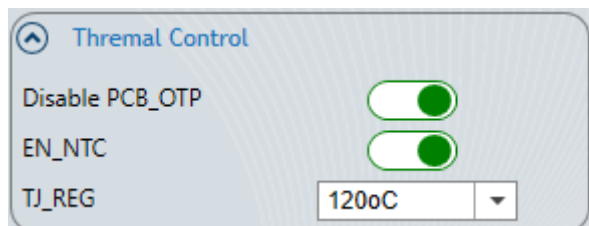

Figure 19: Thermal Control Setting
15. Figure 19 shows the thermal control setting to enable PCB over-temperature protection (OCP).